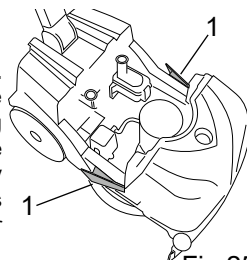

Fig.25
- Press in the two lateral tank retaining catches (fig. 25, ref. 1), and separate the dirty water tank from the frame.